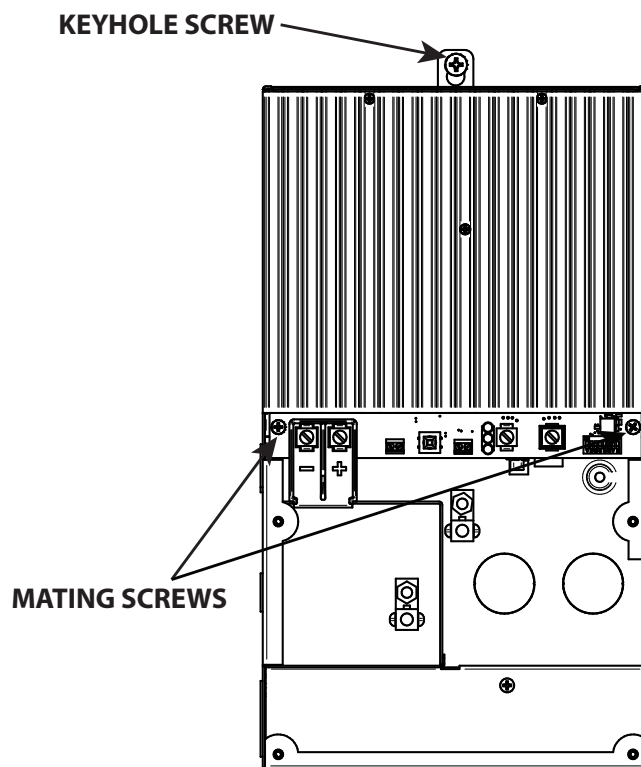

Figure 7-1. Mating screws and keyhole screw locations
Two (2) screws secure the power stage to the wiring box as shown in figure 7-1. Remove both screws using a #2 Philips head screw driver.
Remove the keyhole mounting screw as shown in figure 7-1.